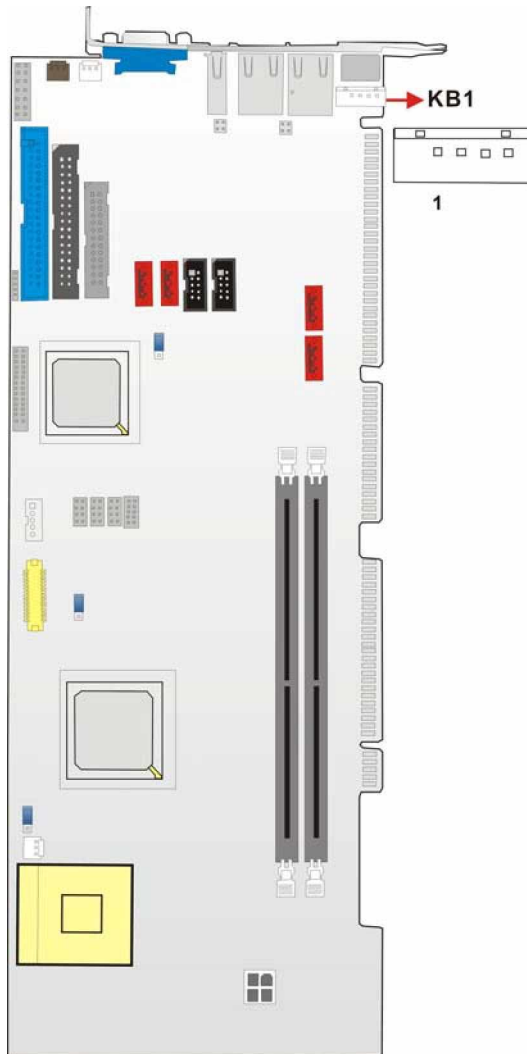

Figure 3-17: KB1 Connector Location
- CN Location: See Figure 3-17